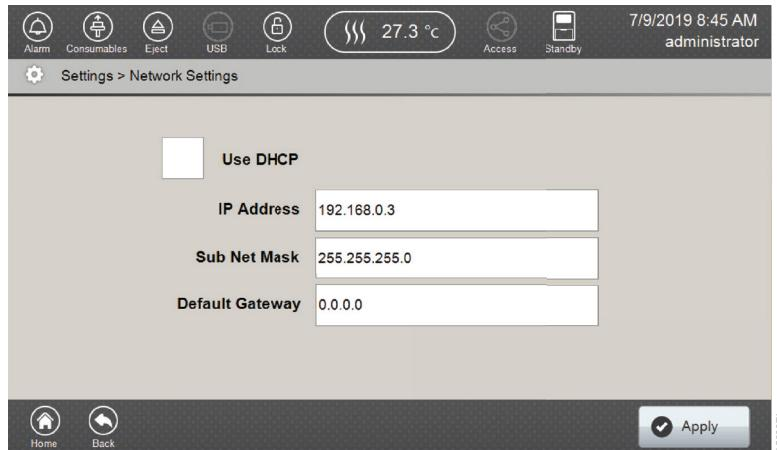

Figure 161. 'Network Settings' screen.
2. Select **Network Settings** in the 'Settings' screen (Figure 158) to open the 'Network Settings' screen (Figure 161).